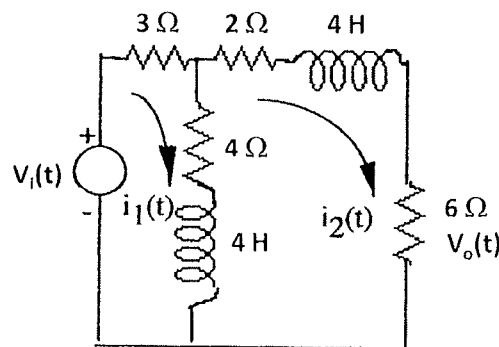

Figure 4 (a) – Electrical circuit for an oscillator
- (ii) Find the transfer function $G(s) = V_o(s)/V_i(s)$ for the electrical network in Figure 4 (a).